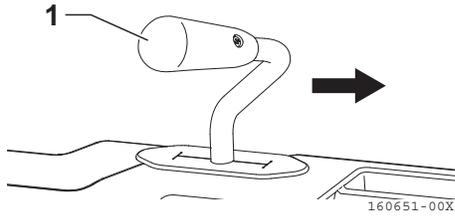

Fig. 3-22
3. Operate the blade lever (Fig. 3-22, 1) to raise the blade.